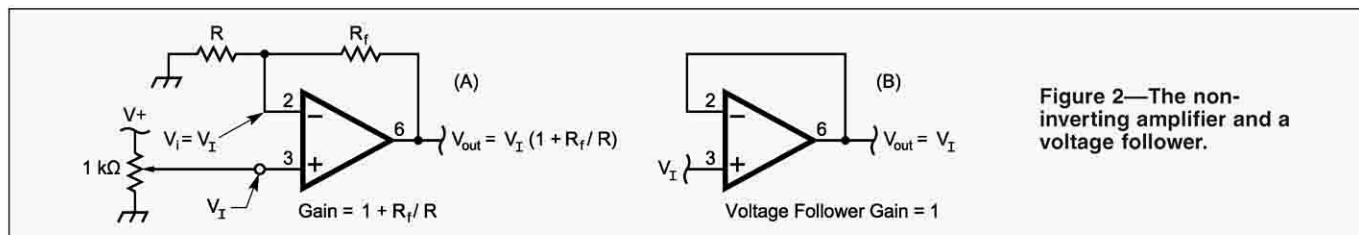

Figure 2—The non-inverting amplifier and a voltage follower.
Figure 2 — The common-emitter (CE) amplifier uses a resistive voltage divider (R_1 and R_2) to establish the circuit's Q point along with R_E . The capacitor C_E is an emitter bypass capacitor that provides higher ac gain while leaving dc biasing unaffected.
The load line is much more useful in designing transistor circuits, since current and voltage can take wide ranges of values. The common emitter (CE) amplifier in Figure 2, from the first Hands-On Radio experiment is one you'll use frequently, so we'll use it as an example.² This circuit uses self bias and emitter degeneration to establish a stable *Q* point (the operating point with no input signal).
Figure 2 shows an *emitter bypass* capacitor, C_E , next to R_E . When C_E is connected across R_E , the circuit has a different ac voltage gain $A_V = -R_C/r_e$ (r_e is the internal emitter resistance of a few ohms) than dc gain $A_V = -R_C/R_E$. For an ac signal, the circuit operates on a separate ac load line as shown in Figure 3, because R_E has been effectively short circuited for ac signals. Without R_E , the slope of the ac load line is $-1/R_C$, steeper than for the dc load line. The ac and dc load lines intersect at the circuit's *Q* point because the circuit's ac and dc operation is the same if the ac input signal is zero.